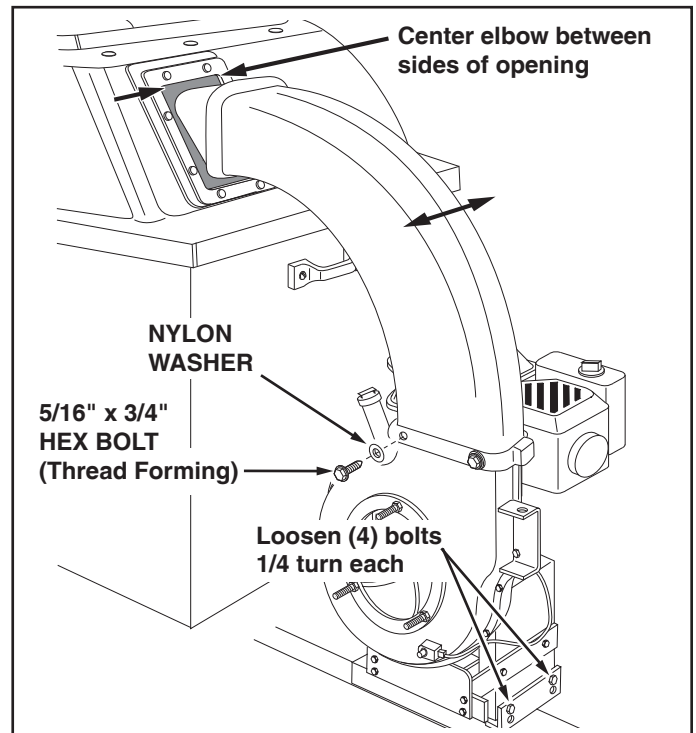

FIGURE 17
- Assemble the elbow to the impeller housing using four 5/16" x 3/4" thread forming hex bolts and four nylon washers. Push while turning to help start the bolts into the un-threaded holes. **Tighten.** See figure 17.
- b. Loosen by approximately 1/4 turn each, the four bolts that you assembled in figure 17.